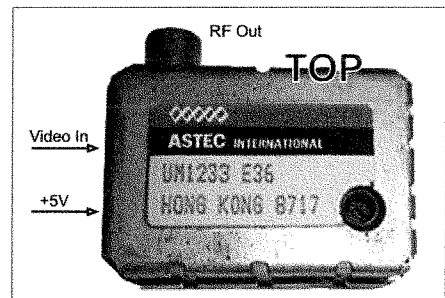

Figure 1 - ASTEC RF Modulator
that is!). We have also seen how annoying and fuzzy the picture is. The simple answer to improvement (simple because there are more complex ones for sure) is to bypass the modulator and feed our telly (or VCR) with the Composite Video signal that feeds into the modulator (figure 1). Right? Wrong!
- a. The +5V input to the modulator (First wire going into the modulator from the bottom left -bottom right if the PCB is reversed-, the top considered to be the side with RCA connector - see figure 1) - The insulation at the point of entry is usually brown.